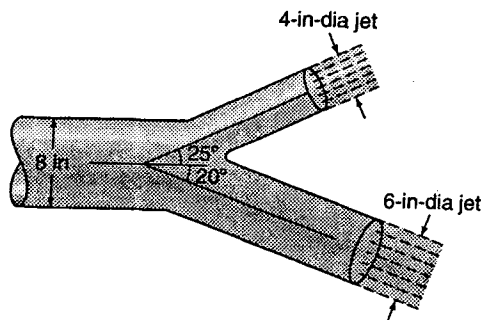

Figure P6.9
6.9 Both nozzle jets in Fig. P6.9 discharge horizontally into the atmosphere with a velocity of 40 fps. The liquid has a specific weight of 62.4 lb/ft3. The axes of the pipe and both nozzles all lie in a horizontal plane. Find the magnitude and direction of the resultant force on this double nozzle while neglecting friction.